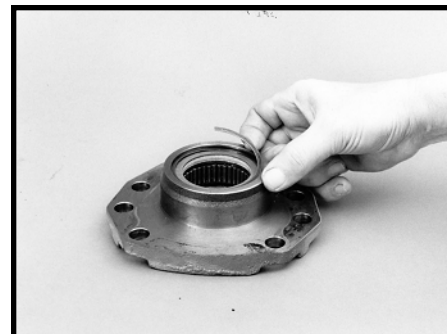

Figure 141
35. Assemble retaining ring (51) into the ring groove in the side cover. SEE FIGURE 141